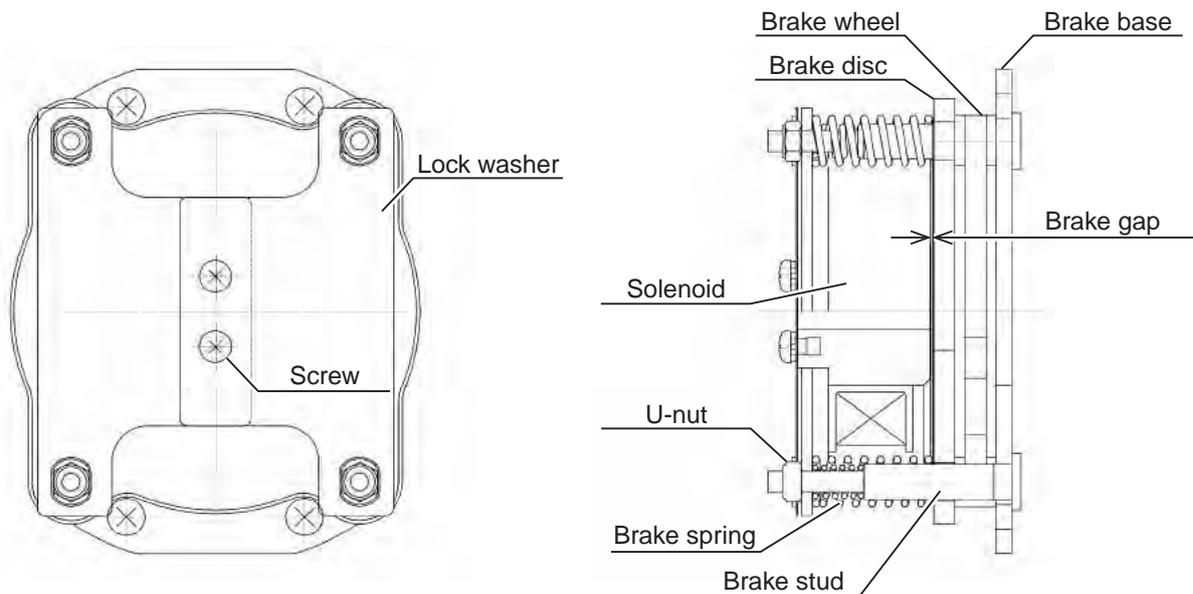
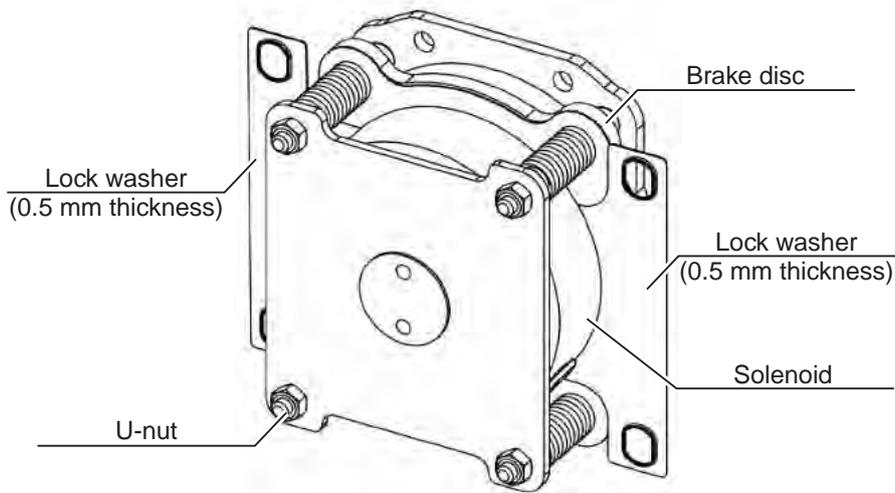

Figure 1 : Structure of the brake
Figure 2: How to adjust the brake gap
Please refer to 'Figure 1' and check the wear and operation status of each part. The brake gap is set to an appropriate value at shipment, however, it will become larger due to wear of the lining etc. with use. When the slip amount from the time of releasing the push-button to when the hoisted load stops, exceeds the limit given in 'Table 1', please adjust.
- (1) Remove the screws and remove the lock washer.
- (2) Insert between the solenoid and the brake disc as shown in 'Figure 2'.
- (3) Tighten the 4 U-nuts evenly.
- (4) Since the thickness of the lock washer is 0.5 mm, when there is no "play" with the lock washer inserted, the brake gap will be set to 0.5 mm.
- (5) Return the U-nut slightly (about 1/6 of a turn) and pull out the lock washer.
- (6) Return the lock washer to its original position as shown in 'Figure 1' and tight with the screws.